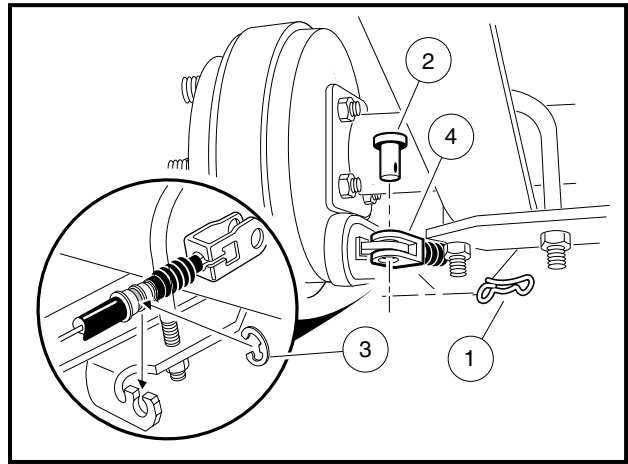

Figure 16a-7 Disconnect Brakes
5. Disconnect the shock absorbers from their lower mounts (**Figure 16a-8, Page 16a-5**).